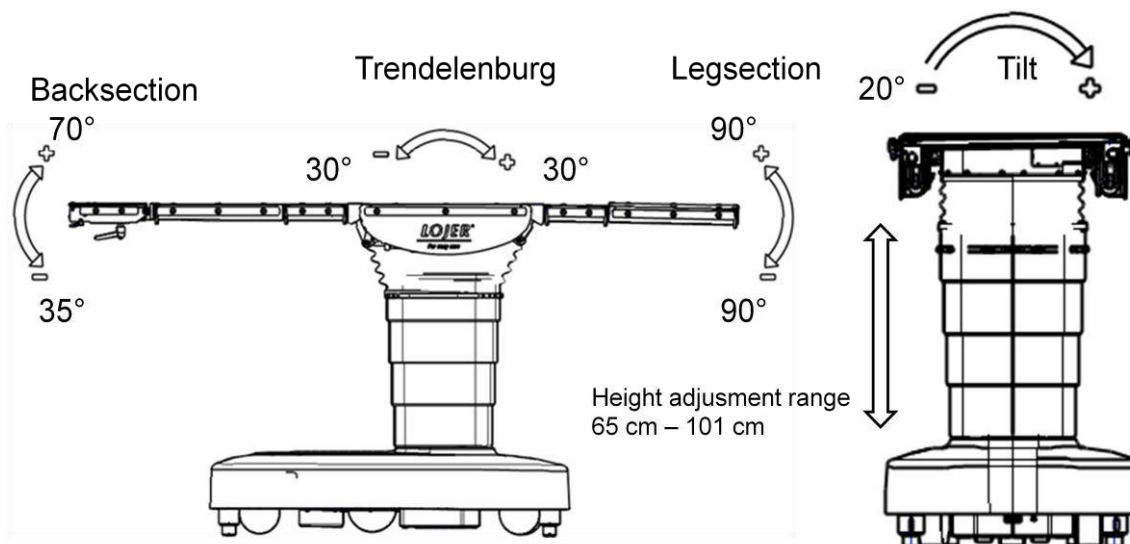

Figure 9: Adjustment range of the operating table
Maximum adjustment range of the table is presented below (Figure 9).
Tilt the table (patient) right by pressing the button on the hand control (Figure 5 (15)). Tilt to left with the button on the hand control (Figure 5 (14)). Maximum tilt 20° (Figure 9), when the table is horizontally. When the table is in trendelenburg/antitrendelenburg-position the tilt angle is limited.